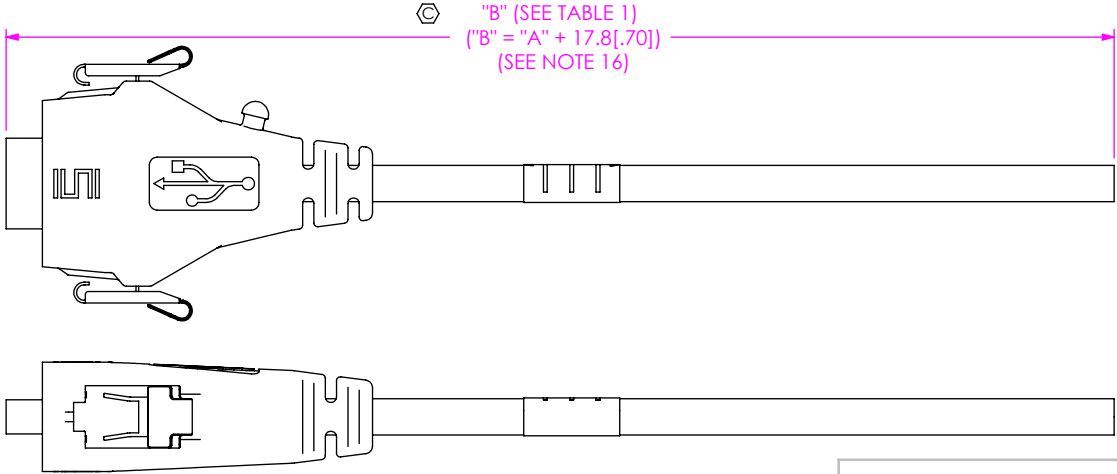

FIG. 3
-BC: BLUNT CUT (SEE SHEET 2, FIG. 3)